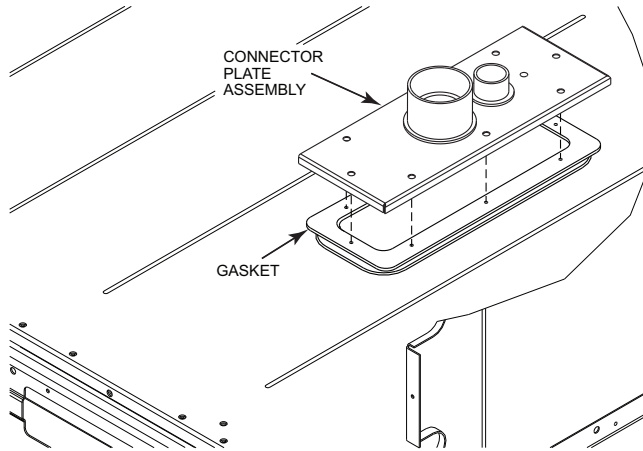

Fig. 39 — Completing Installation of Thru-the Base Option
- Place the gasket over the embossed area in the basepan, aligning the holes in the gasket to the holes in the basepan. See Fig. 39.